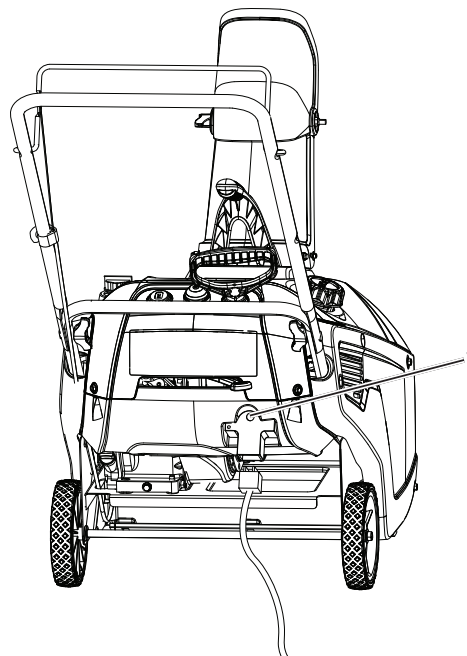

Figure 12
4. Pull the recoil starter or if your snow thrower is equipped with an electric starter, connect an extension cord to the snow thrower and plug the other end into a three-hole grounded 110 volt A.C. receptacle and push the electric-start button (Figure 12).
6. Unplug the extension cord from the power source and the snowthrower (Figure 12).